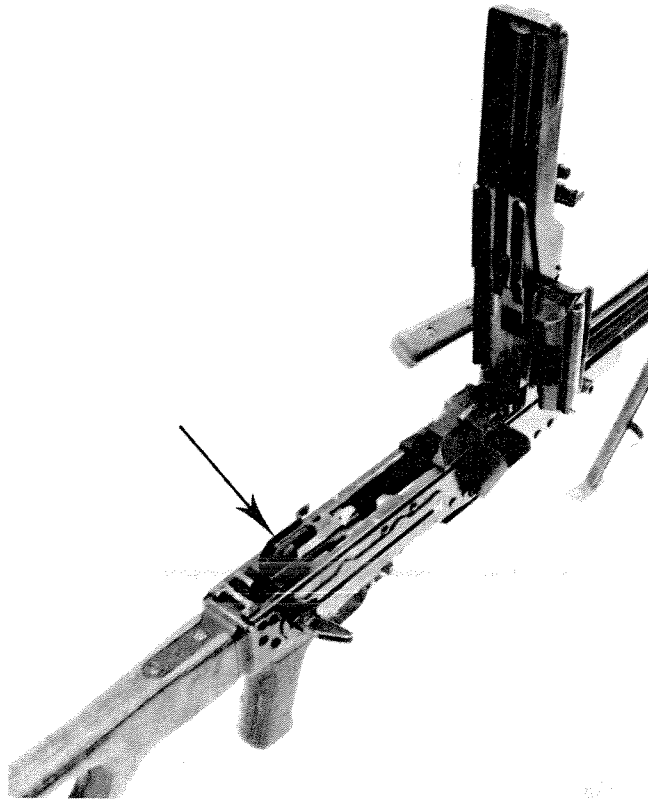
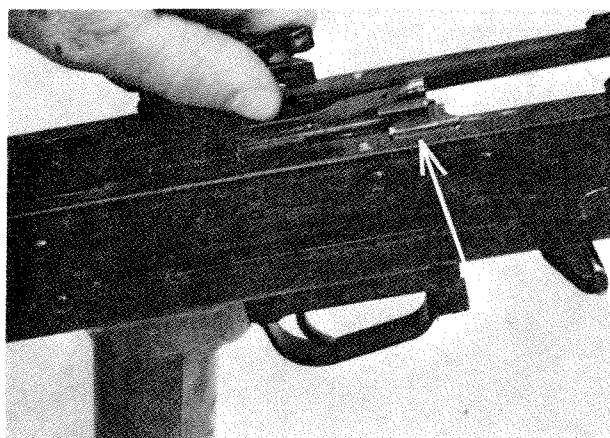
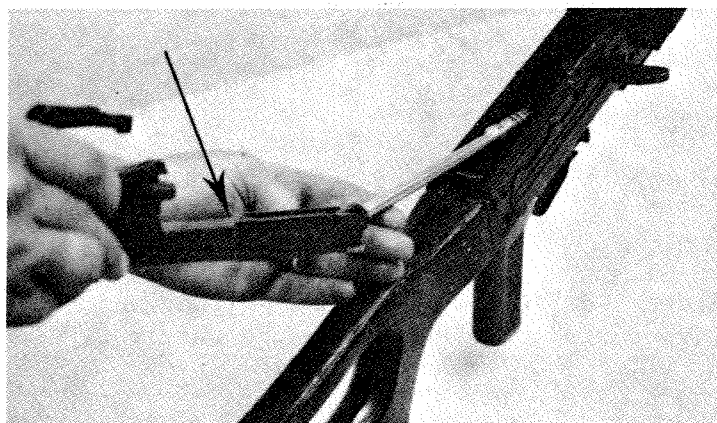

Figure 3-8. Cartridge space gripper and bolt retracted to the rear of the receiver.
Figure 3-9. Bolt and cartridge space gripper aligned with the notches on the receiver.
Figure 3-10. Removal of cartridge space gripper, bolt and piston rod.
g. To remove the cartridge space gripper, piston rod and bolt from the receiver, grasp the cartridge space gripper (fig. 3-8) and pull to the rear of the receiver. Align the notches on the bolt with the notches on the receiver (fig. 3-9). Pull up on the cartridge space gripper and remove the entire section from the receiver (fig. 3-10).